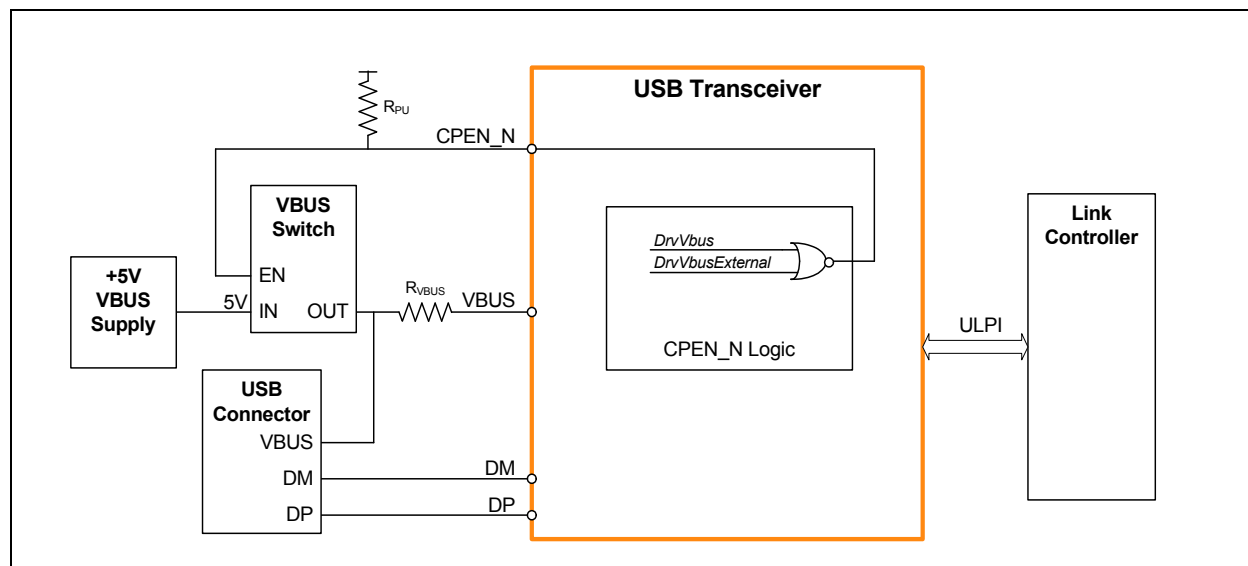

Figure 5.8 USB3370 Drives Control Signal (CPEN\_N) to External Vbus Switch
**CPEN\_N** is driven by setting the *DrvVbus* or *DrvVbusExternal* bit of the **OTG Control** register. To be compatible with Link designs that support both internal and external Vbus supplies, the *DrvVbus* and *DrvVbusExternal* bits in the OTG Control Register are NOR'd together. This enables the Link to set either bit to access the external Vbus enable (**CPEN\_N**). This logic is shown in Figure 5.8. *DrvVbus* and *DrvVbusExternal* are set to 0 on **Power On Reset (POR)** as shown in Section 7.1.1.7.